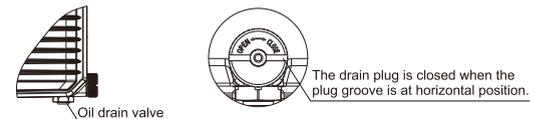

Fig. 5
- 4) Open the Oil Drain Valve (refer to Fig. 5) to drain the oil.